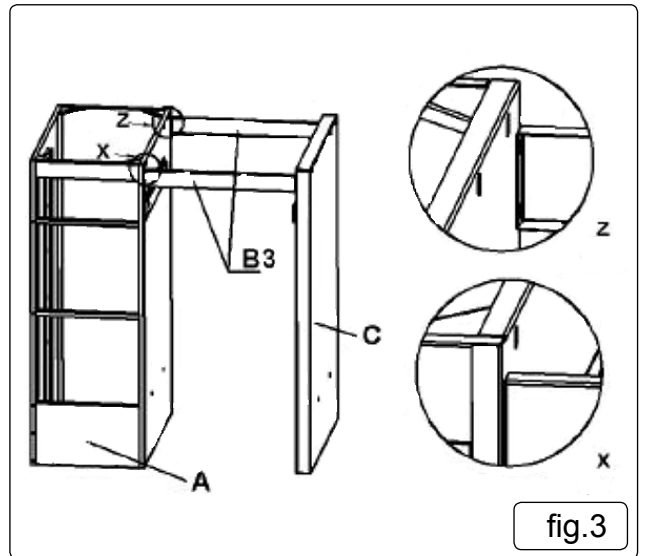

fig.3
- 4.4. Place part A, part B3 (Keep the folded edge inward) and part C as shown in fig.3. Then fix with bolts provided.
- 4.7. Replace all four draws fig.6. Press the plastic latches of both sides at the same time fig.3, and push in the drawer.